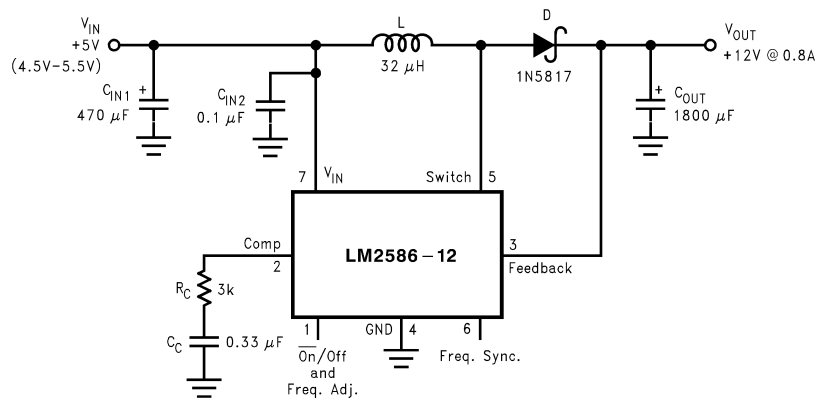
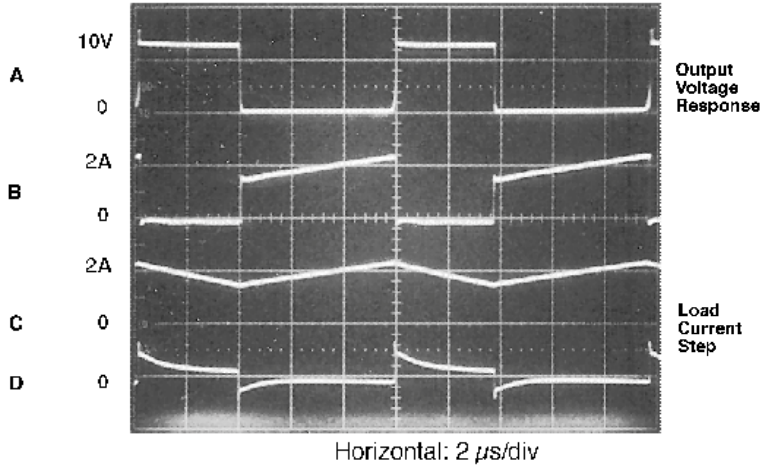
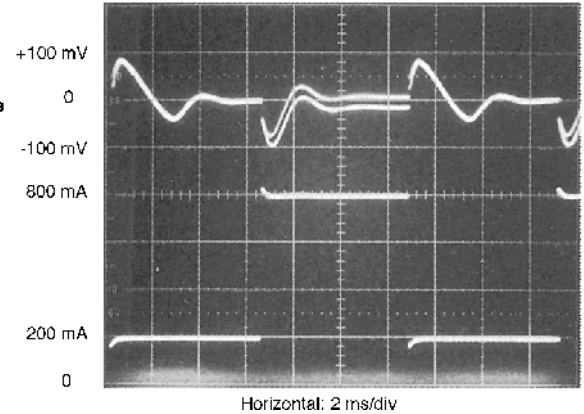

Figure 31. 12V Boost Regulator
Figure 32. Switching Waveforms
Figure 33. V_{OUT} Response to Load Current Step
Figure 31 shows the LM2586 used as a step-up (boost) regulator. This is a switching regulator that produces an output voltage greater than the input supply voltage.
A brief explanation of how the LM2586 Boost Regulator works is as follows (refer to Figure 31). When the NPN switch turns on, the inductor current ramps up at the rate of V_{IN}/L , storing energy in the inductor. When the switch turns off, the lower end of the inductor flies above V_{IN} , discharging its current through diode (D) into the output capacitor (C_{OUT}) at a rate of $(V_{OUT} - V_{IN})/L$. Thus, energy stored in the inductor during the switch on time is transferred to the output during the switch off time. The output voltage is controlled by adjusting the peak switch current, as described in the flyback regulator section.
By adding a small number of external components (as shown in Figure 31), the LM2586 can be used to produce a regulated output voltage that is greater than the applied input voltage. The switching waveforms observed during the operation of this circuit are shown in Figure 32. Typical performance of this regulator is shown in Figure 33.